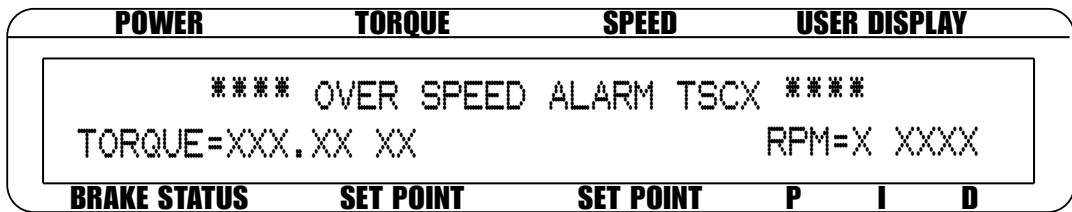

Fig.5-12 Over Speed Alarm Message Display
- B. If speed is greater than 120% of the maximum speed setting or in condition A for greater than 5 seconds, the display will flash "OVER SPEED ALARM TSCx" (as indicated in Figure 5-12) The alarm relay will open, excitation current will hold at last value for 3 seconds then drop to zero. Standby signal is not cycled.